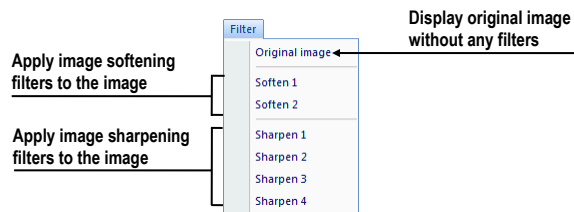

Figure 38 – Filter menu
- **Filter** – the filters for image softening or sharpening in the current view (see Figure 38).